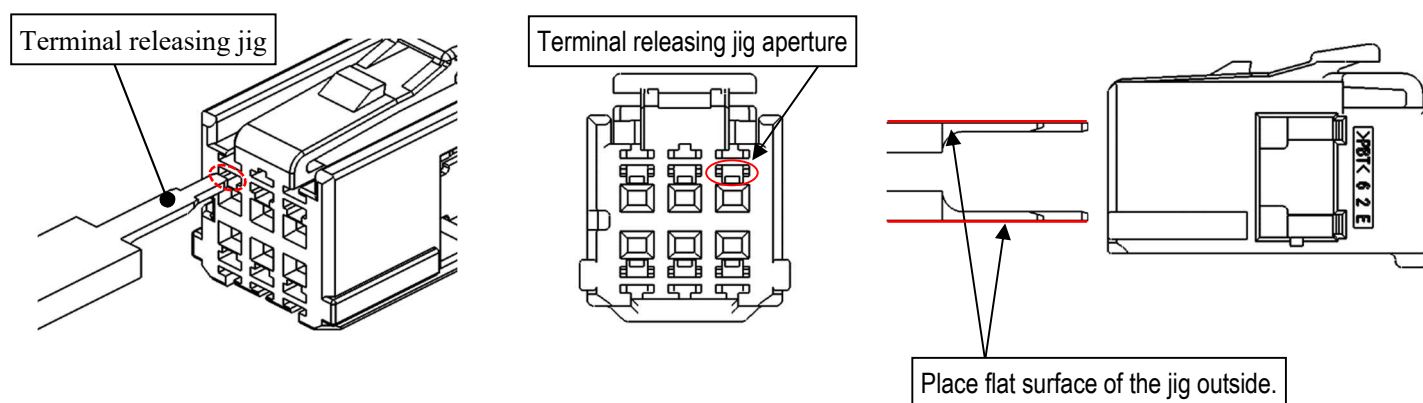

Fig38. Female housing and Direction of release
- ① Ensure that the secondary lock part and the retainer have been removed.
- ② Hold the wire and push in the female terminal lightly. Place the female terminal releasing jig into the releasing apertures of the female housing (see Figs. 38).